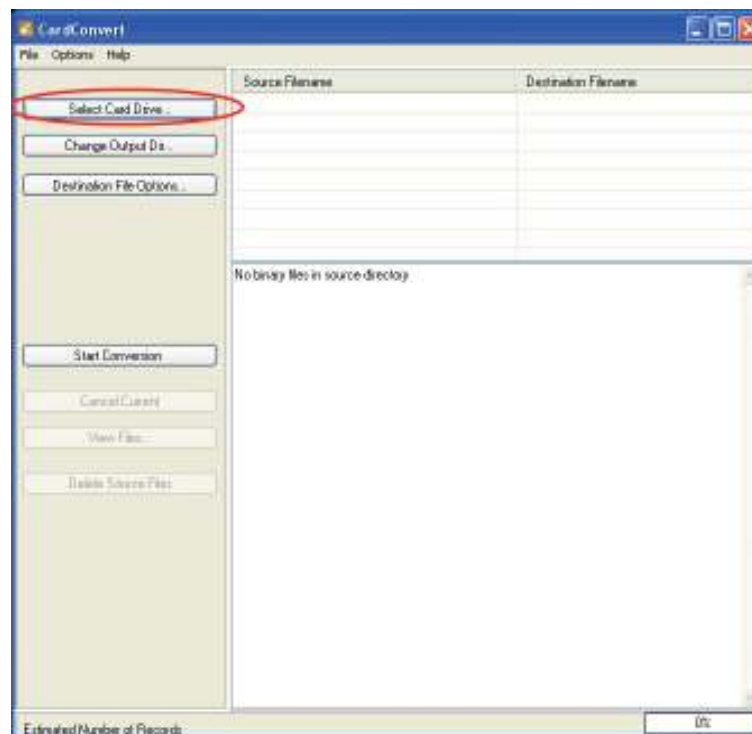

Figure 3. CardConvert window used for converting data logger memory card into a usable file.
- a) From the PC200W **Tools** menu, select **Card Convert**. This will open up the Card Convert Window (see Figure 3).